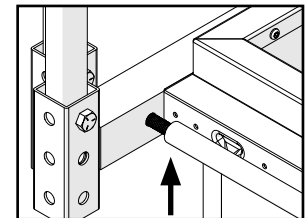

FIG. 2
3. Lift up the completed compression mount assembly onto the counterflash of the roof hatch and hand tighten the bolts. (Fig. 2)